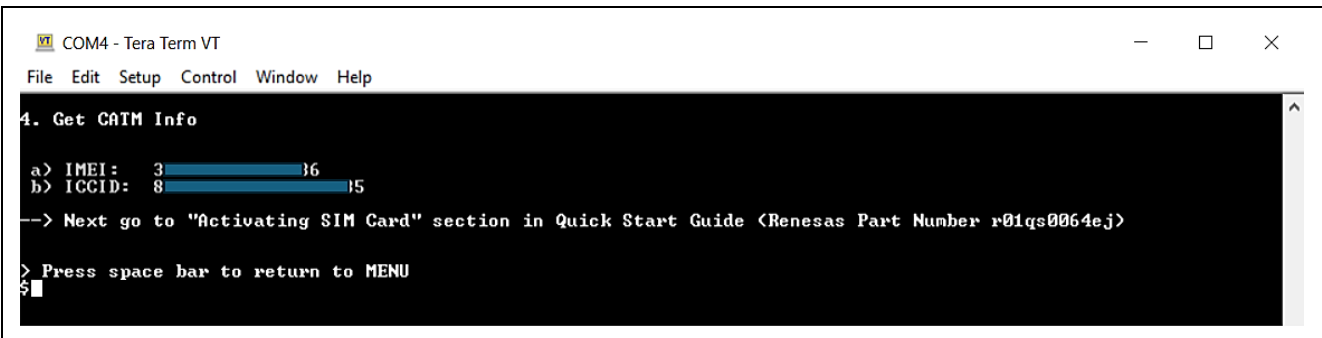

Figure 32. CAT-M Information
6. Select **Activate SIMs** to activate your individual SIM by **ICCID** and **PUK** found on the SIM Card packaging. Note: The **ICCID** value can also be obtained when running cellular project. See the **ICCID** value in **Figure 32. CAT-M Information**. Fill other fields as needed.